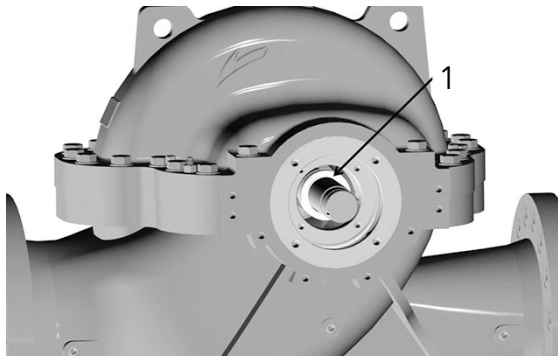

Figure 30: Mechanical seal placement on outboard (opposite of coupling) end of shaft
3. First insert the shoulder ring on the shaft (only at outboard bearing side) and then lightly coat the outboard end of the pump shaft with P-80 Rubber Lubricant Emulsion, vegetable oil, or equal and slide the mechanical seal head onto the shaft. Do not compress the seal spring at this time. (see Figure 30)